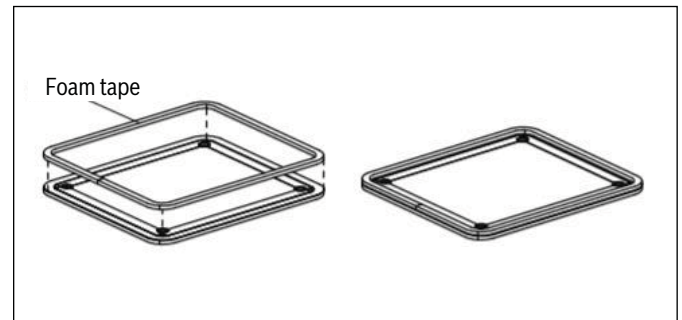

Figure 3
4. Apply the supplied foam tape along the edges of the panel (on the non-painted side). See Figure 3.